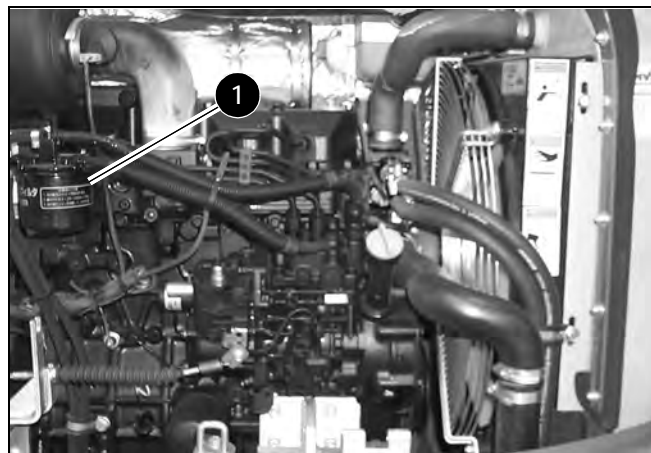

Figure 4-7 Fuel Filter
3. Clean dirt from the housing and unscrew the fuel filter element (1, Figure 4-7).